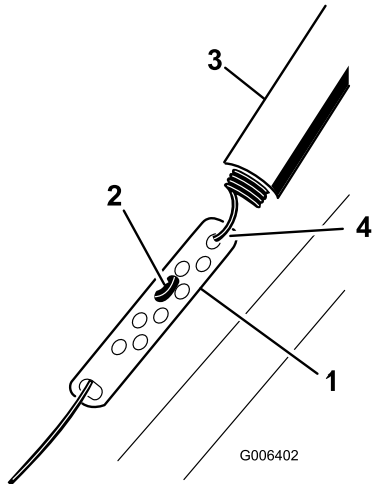

Figure 18
- Slide up the spring cover and unhook the spring from the adjuster link (Figure 18).